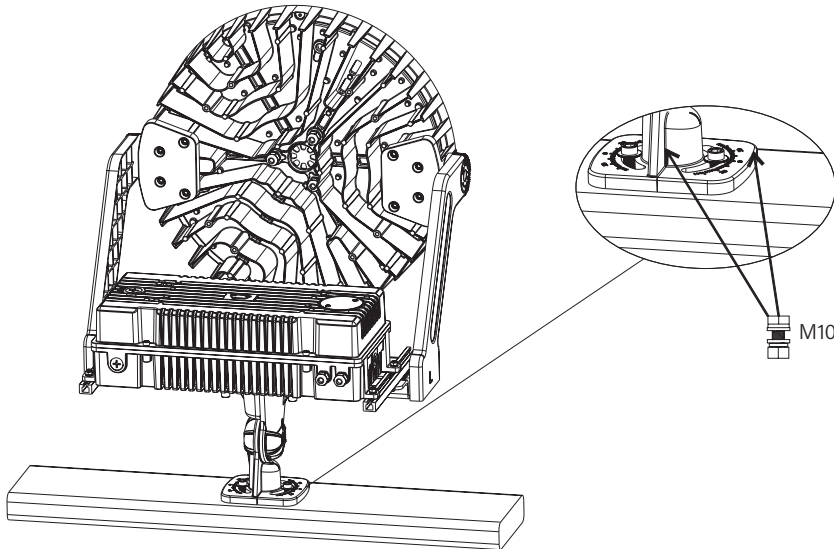

Figure 16
1. Once knuckle mount is attached to fixture, secure to cross arm with M10 bolts, nut, and washers. (Figure 16)